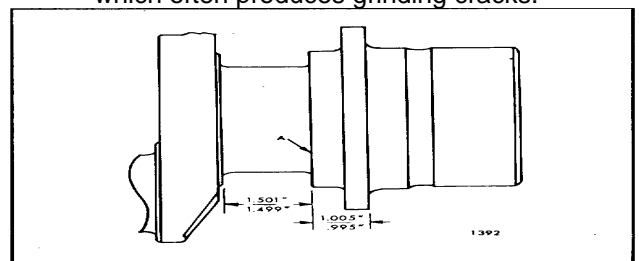

Fig. 8. Standard Dimension at Crankshaft Thrust Surfaces
Also measure the crankshaft thrust surfaces (Fig. 8).
6. If the thrust surfaces of the crankshaft (Fig. 8) are worn or grooved excessively, they must be reground and polished. Care must be taken to leave a .130" to .160" radius between each thrust surface and the bearing journal.
**NOTE:** If the crankshaft thrust surfaces were reground, it may be necessary to install oversize thrust washers on one or both sides of the rear main journal. Refer to Fig. 8 and Table 3.